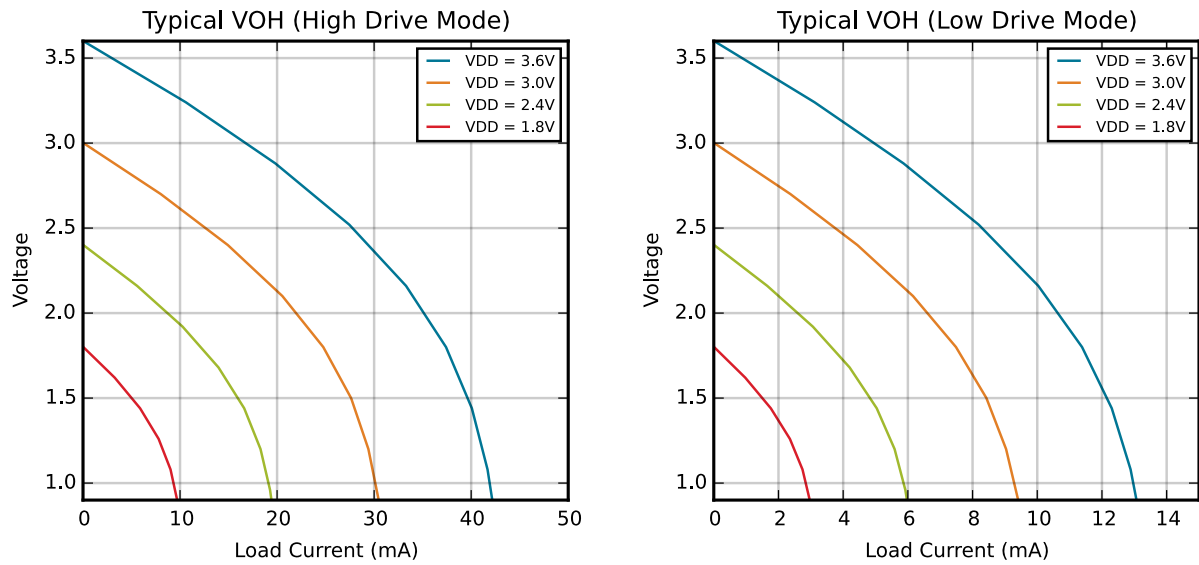
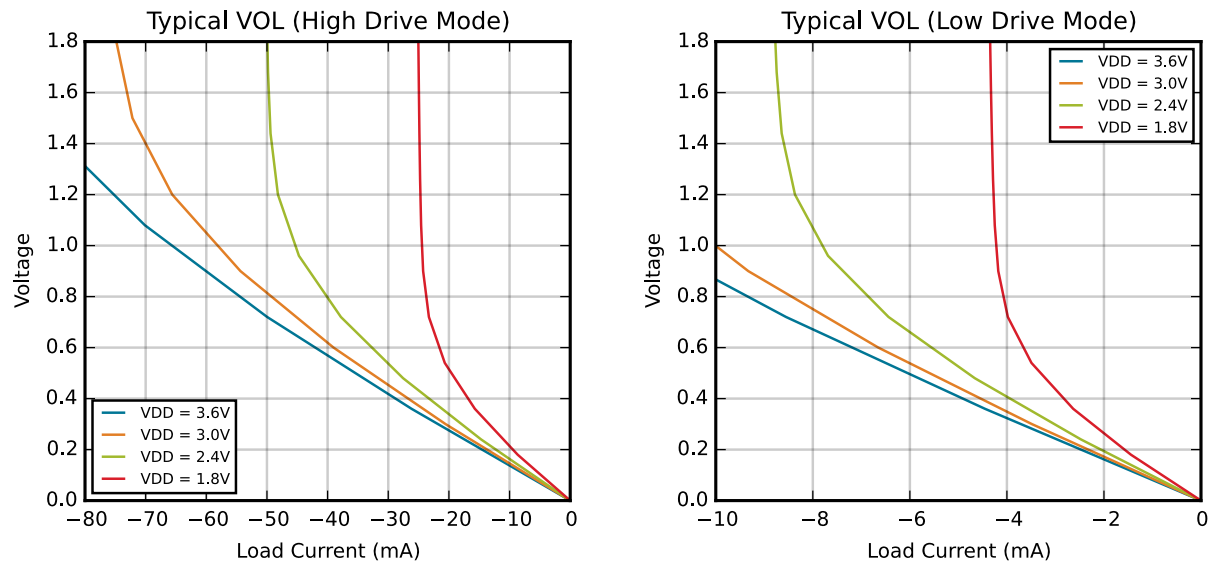

Figure 4.2. Typical VOH Curves
Figure 4.3. Typical VOL Curves
1. See Figure 4.2 Typical VOH Curves on page 24 and Figure 4.3 Typical VOL Curves on page 25 for more information.